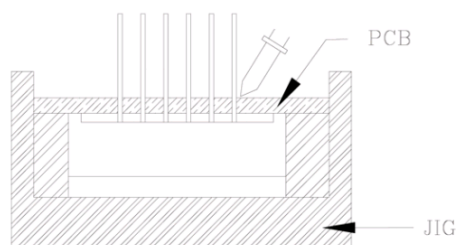

Fig.1
- 1) When soldering the lead of LED in a condition that the package is fixed with a panel (See Fig.1), be careful not to stress the leads with iron tip.